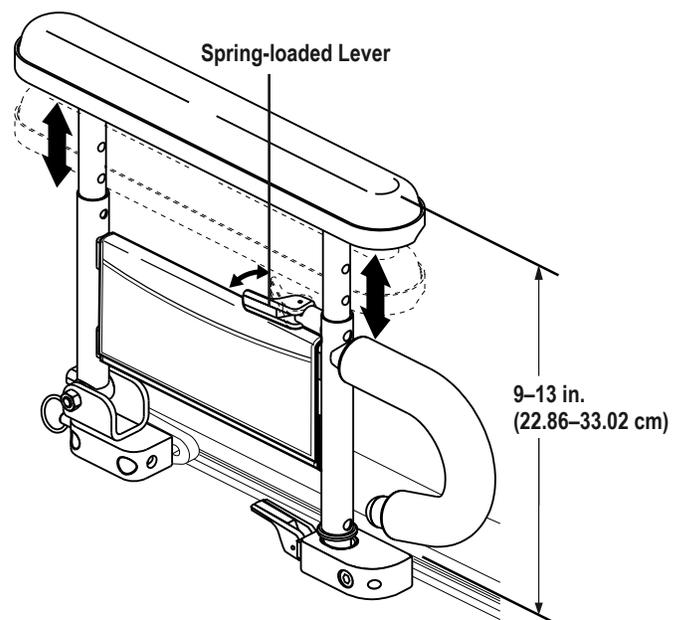

Figure 9. Two Post Armrest Height Adjustment
1. Push the spring-loaded lever inward. **See figure 9.**